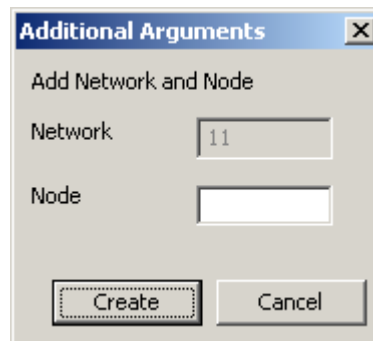

Figure 5. Additional Arguments for Single Safeguard
4. On **Next...** the 'Additional Arguments' window appears. This depends on the selection of a single system (see Figure 5) or a dual system (see Figure 6) in the previous step.